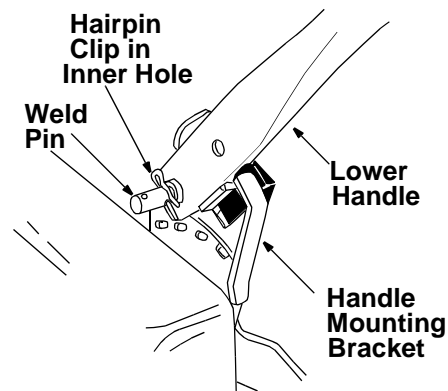

Figure 3
- Using a pair of pliers, squeeze one leg of the lower handle against the handle mounting bracket. Insert the hairpin clip into the inner hole on the weld pin. See Figure 3. Repeat on other side.